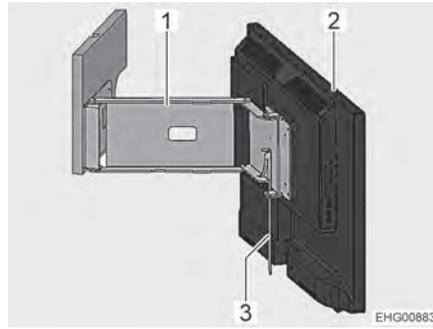

Fig. 71 Flat screen on jointed arm
- Flip the lever (Fig. 71,3). The jointed arm (Fig. 71,1) is unlocked.
- Swivel the flat screen (Fig. 71,2) into the desired position.